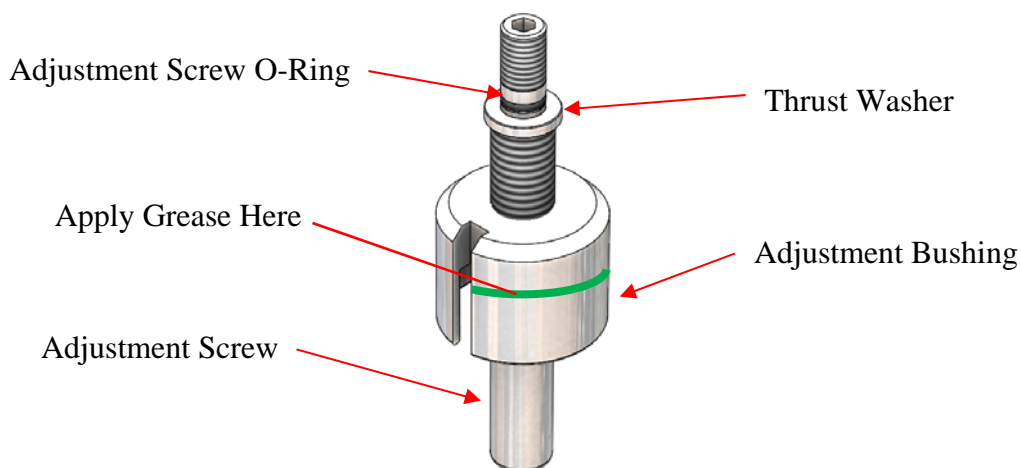

Figure 27: Adjustment Bushing and Thrust Washer
3. Lightly lubricate the outer surface of the adjustment bushing. See Figure 27.
4. Place the thrust washer on top of the adjustment screw. See Figure 27.